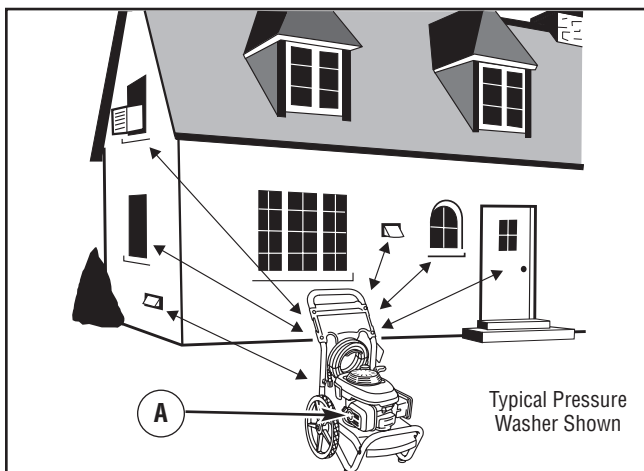

Figure 14 — Pressure Washer Clearance
Place pressure washer outdoors in an area that will not accumulate deadly exhaust gas. DO NOT place pressure washer where exhaust gas (A) (Figure 14) could accumulate and enter inside or be drawn into a potentially occupied building. Ensure exhaust gas is kept away from any windows, doors, ventilation intakes, or other openings that can allow exhaust gas to collect in a confined area. Prevailing winds and air currents should be taken into consideration when positioning pressure washer.